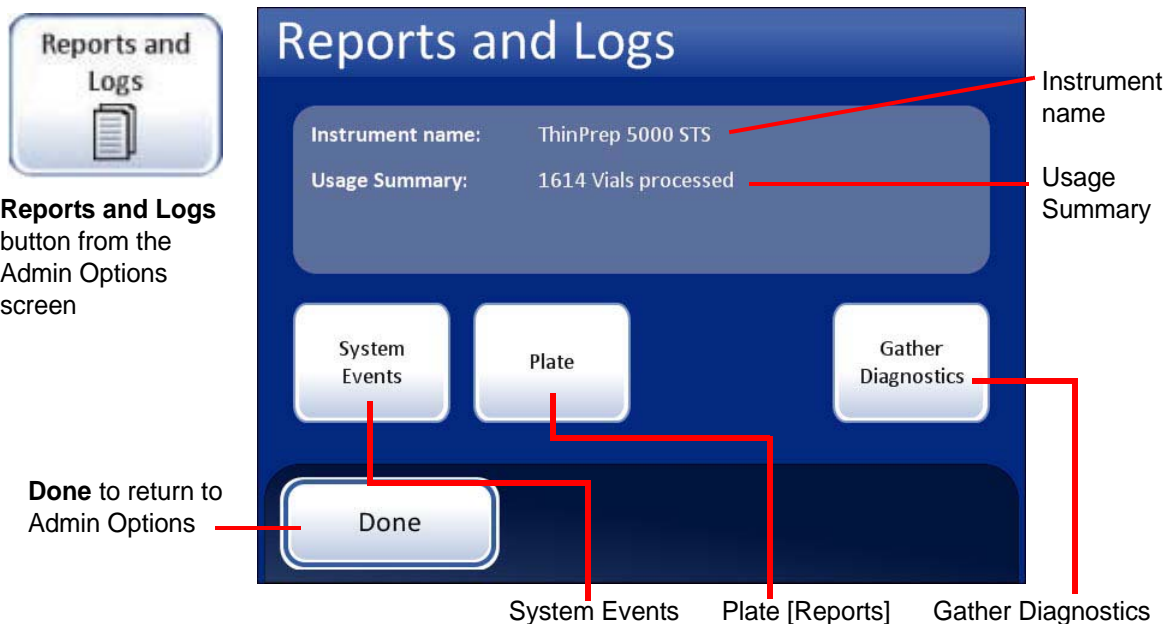

Figure 3-20 Reports and Logs Screen
- Usage Summary (see Figure 3-20), which tallies how many vials the system has processed to date.